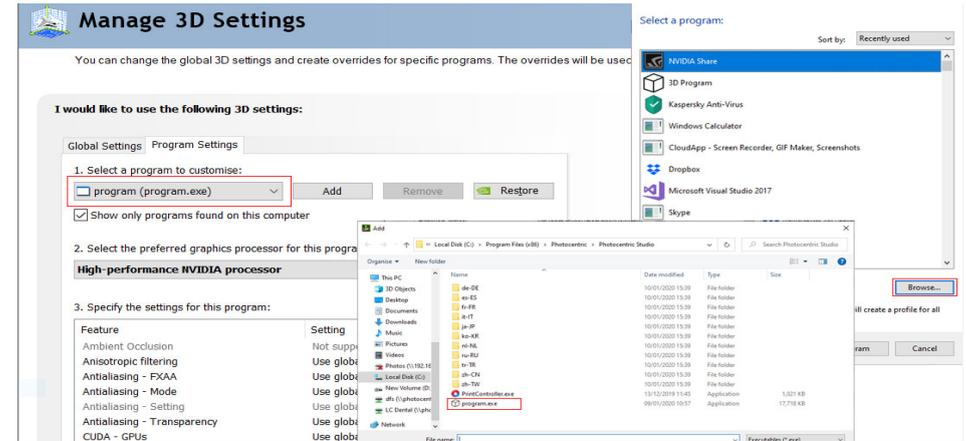

Figure 3
2. Select 'Program Settings', click 'Add' (figure 3).
3. Select 'Local Disk (C)', 'Program Files', 'Photocentric', 'Photocentric Studio' then click 'Open' (figure 3).
4. Make sure 'Preferred Graphics Processor' is 'Nvidia Processor' (figure 3).